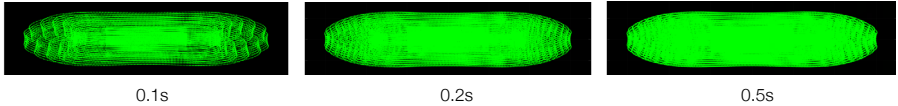

Figure 1.2.2 Point cloud patterns of the HAP (TX) accumulated over different integration time
Figure 1.2.2 displays the point cloud patterns of the HAP (TX) with respect to different integration time.